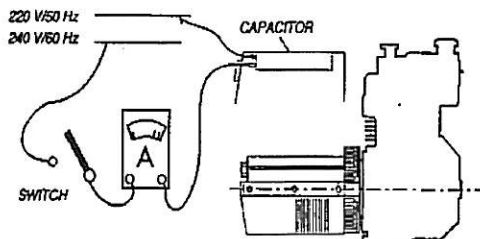

Figure 5-12. Alternator Test 4
- c. Read current with an ammeter as shown in Figure 5-12. Value shall be 2.7 amps @ 240 Vac and 1.35 amps @ 120 Vac.